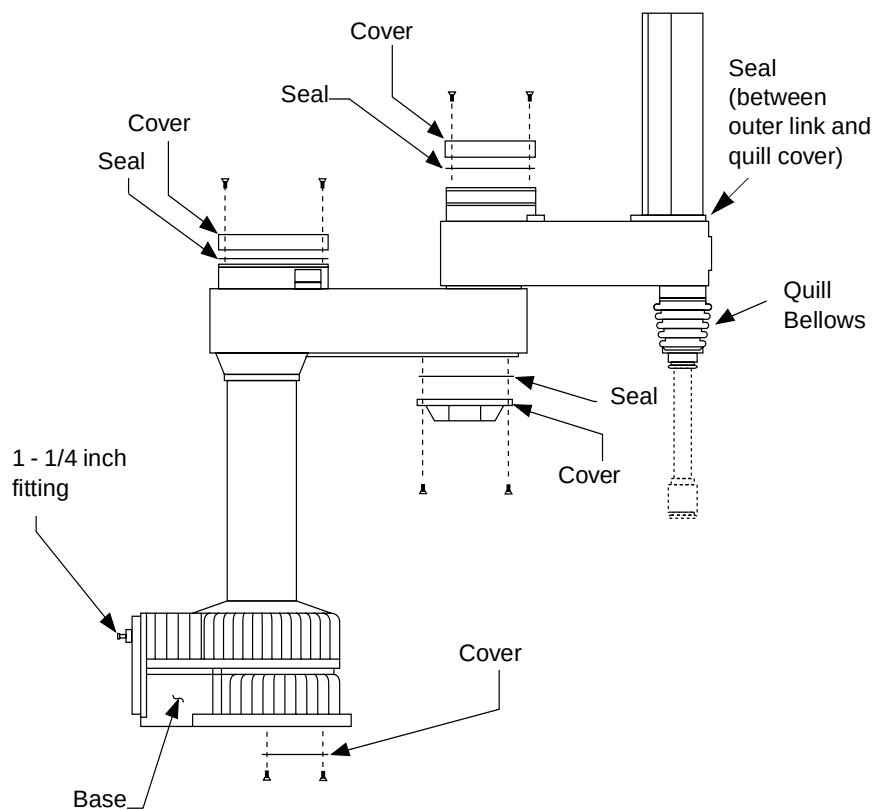

**Figure A-1. Adept-XL Cleanroom Features**
**NOTE:** Seals are present under the access covers; see Figure A-1 on page 270. If removal of an access cover is necessary, the seal must be put back in place. The robot will **not** meet Class 10 Cleanroom specifications unless all seals are in place and proper vacuum is maintained.
The Adept-XL Cleanroom Robot Option provides a 1-1/4 inch male thread pipe fitting for the vacuum connection on the outside of the base of the robot, see Figure A-1 on page 270. This can be adapted to any vacuum supply pipe being used. Adept recommends the connection include the following features:
The robot is pressurized through the blower attachment fitting located at the base of the robot (see Figure A-1 on page 270). The fitting provides for attachment of a 3-inch diameter hose secured with a 1/2-inch wide hose clamp.